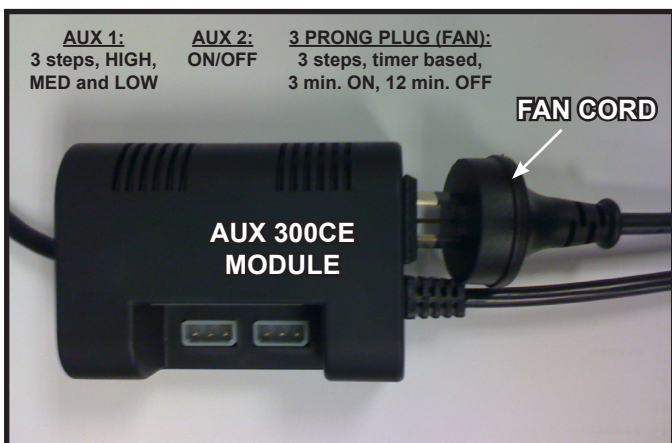

Figure 10.8 Plug Fan into AUX300CE Module
- Insert the 3 prong plug from the fan into the receptacle located in the AUX300CE module. See Figure 10.8.